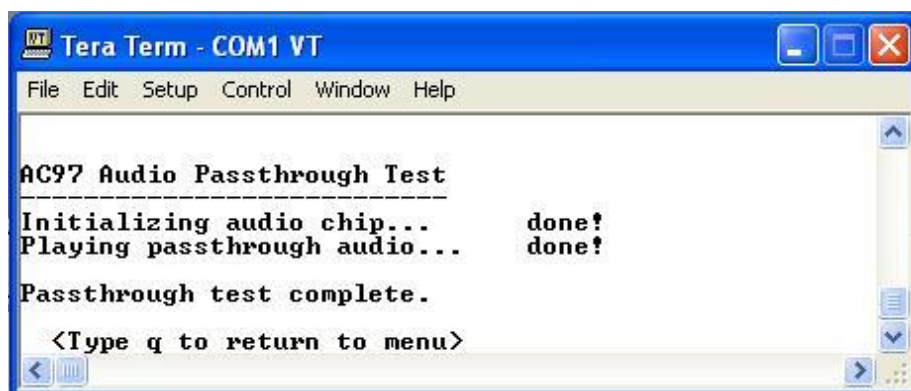

Figure D-16: Digital Passthrough Test Completion
4. The terminal window output for the Digital Passthrough test is shown in Figure D-16.